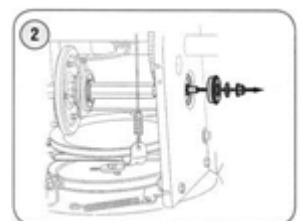

Figure 22
- Carefully remove the hex nut and washer which secures. See Figure 22. The hex shaft to the snow thrower frame and lightly tap the shaft's end to dislodge the ball bearing from the right side of the frame.